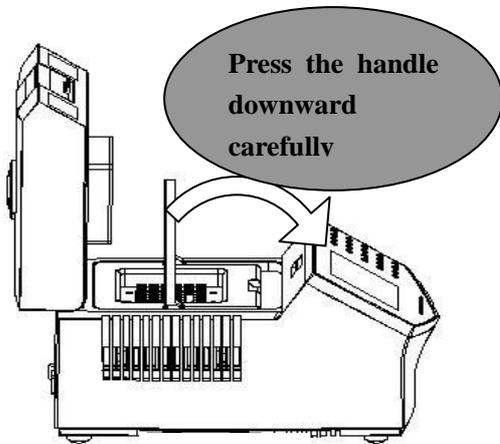

Figure 6
Step 4: After the module parts completely contact the shell, press back the handle downward to make the magnetic steel on the handle and the shell mutually attract. (See Figure 6)